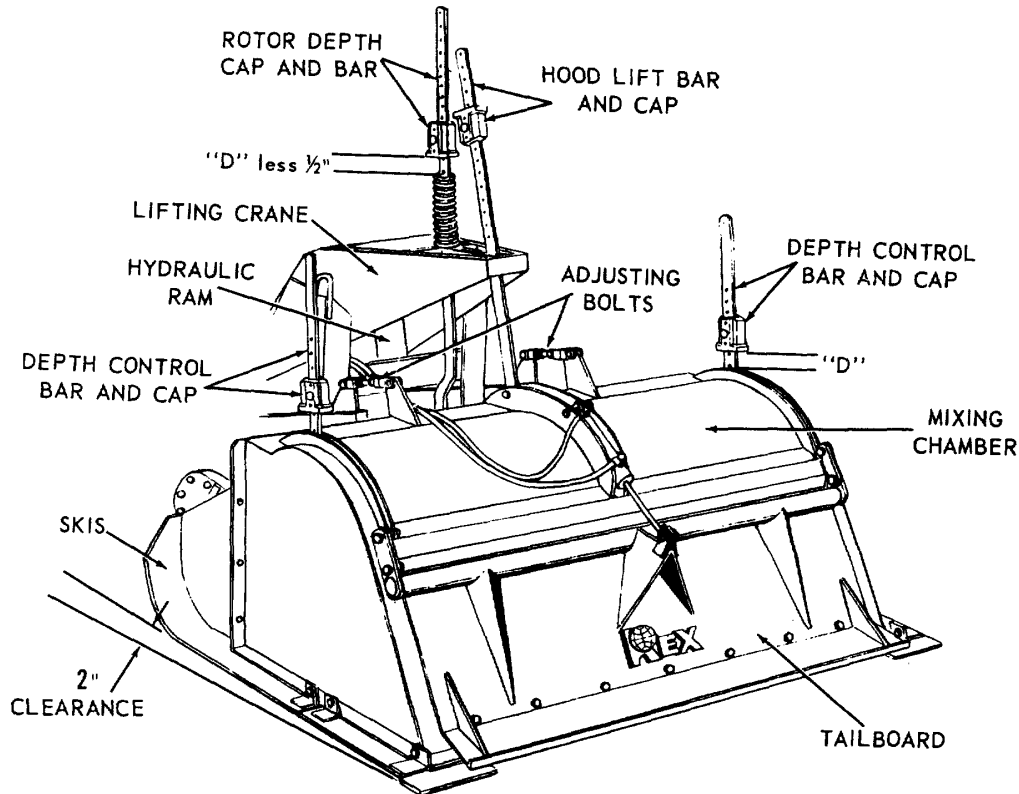

Figure 1-9. Hood and Rotor Assembly Nomenclature
Rotor Depth Control Adjustment (Figure 1-9)
The V.P.I. instruments are mounted on the engine hood, Fig. 1-9, in full view of the operator and indicates thru gauges the gallons per minute *(1) of liquid passing through the meter; the machine travel speed in feet per minute *(2); a proportioning gauge (3) and a manual dial control for setting the number of gallons of liquid per square yard (4) required.
2. Operation (Fig. 1-9)